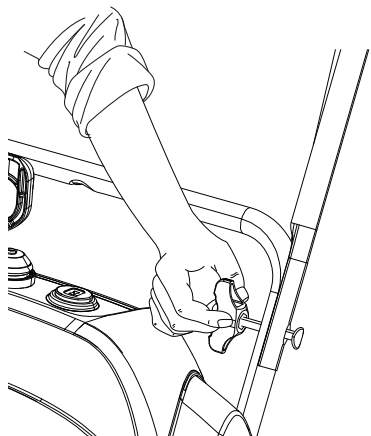

Figure 3
2. Tighten the handle knobs until they are snug (Figure 3).